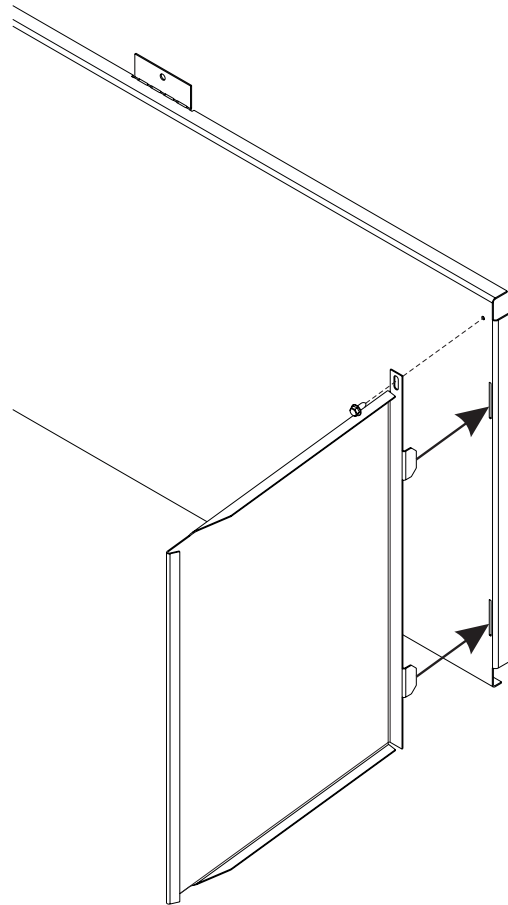

Figure 4
4. Check to make sure the insulation is secured to the back prior to installing the Right Side Panel. Place the Right Side Panel so the two rear tabs align with the two slots at the right end of the Rear Panel. **See Figure 4.**